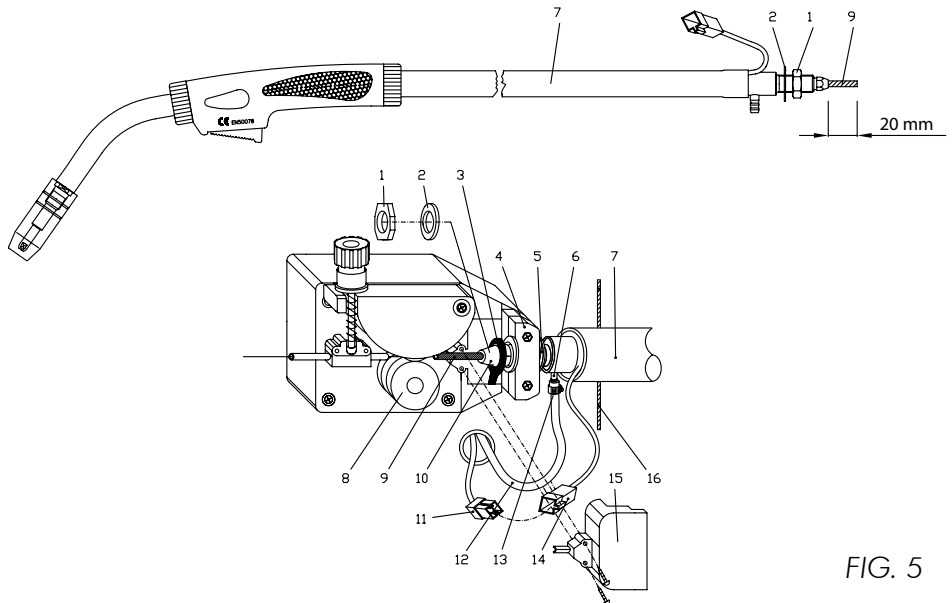

FIG. 5
4.3 TORCH LEAD ASSEMBLY – DIRECT CONNECTION (FIG. 5)
- Before fitting the torch hose assembly (7) on the machine remove the nut (1) and the washer (2). Then, measure the length of the liner from the brass nut (10). This measurement should be a maximum of 20mm, and should be carefully trimmed to this length using a good pair of side cutters, or similar, ensuring there are no burrs or sharp edges which may impede the progress of the wire when fitted.
- Carefully feed the hose assembly (7) through the hole in the front face of the welder, taking care to feed the electrical connector (14) through at the same time. Then connect them to the wire feeder.
- Then insert also the threaded terminal ring (3), the power cable terminal, the washer (2) and screw on the nut (1) tightly.
- Fit the plastic cover (15) over the bracket assembly (4) securing with the two self-tapping screws provided.
- Connect the gas hose (12) to the gas hose nipple (6) securing with the hose clamps supplied (13).